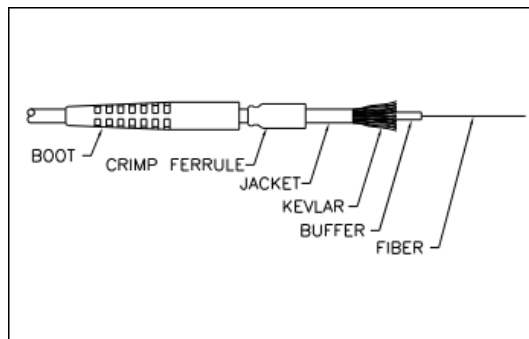

Figure 1: Insert Cable into the boot and crimp ferrule
1. Insert the end of the cable into the small end of the rubber boot and then into the small end of the metal crimp ferrule (figure 1).